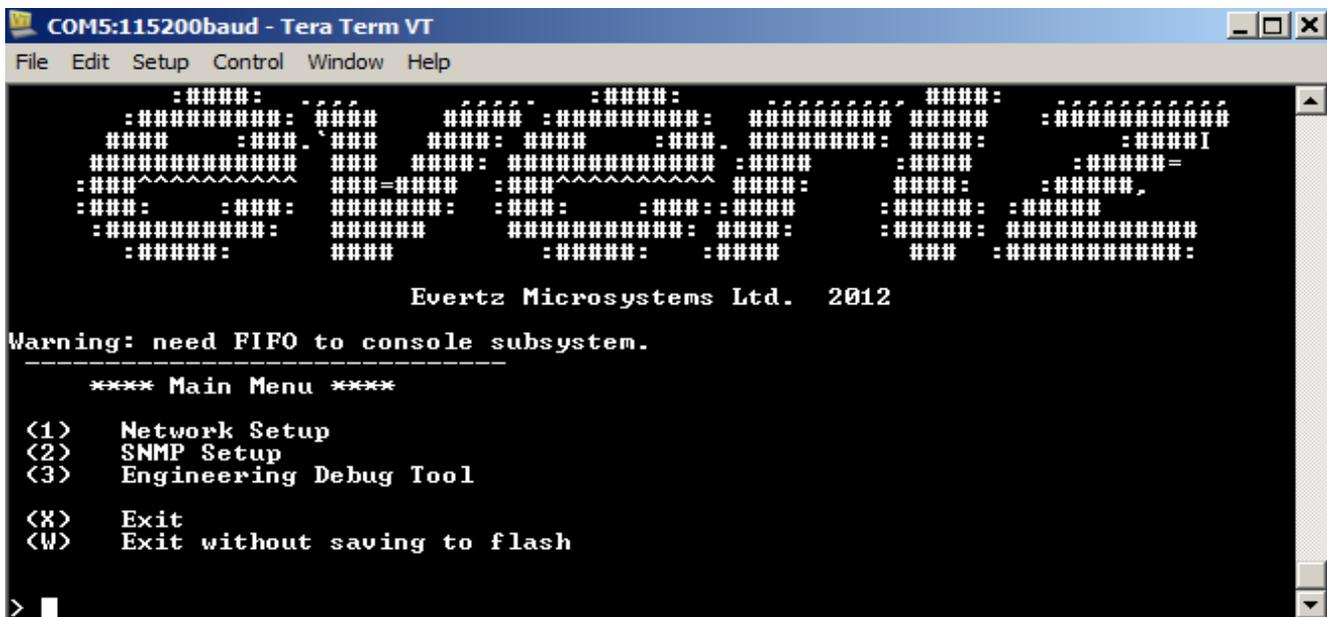

Figure 2-5: COM Port - 7880IPG-NAT Main Menu
1. Select option (1) *Set IP Address* and configure the IP address for the 7880IPG-NAT ensuring that the IP address is not already in use on the network.
2. Now select option (2) *Set Netmask* and configure the correct subnet mask for your network.
3. If required also configure option (3) *Set Gateway* and (4) *Set Broadcast Address*.
4. Enter (X) *to go one level up*.
5. From the main menu in Figure 2-5, enter (X) to save and apply settings.
From the main menu in Figure 2-5, enter **(X)** to save and apply settings. Power Cycle the 7880IPG-NAT to ensure all changes are applied and saved to the card. Verify the network connectivity by opening the command window and try to ping the 7880IPG-NAT using the IP address that was set.